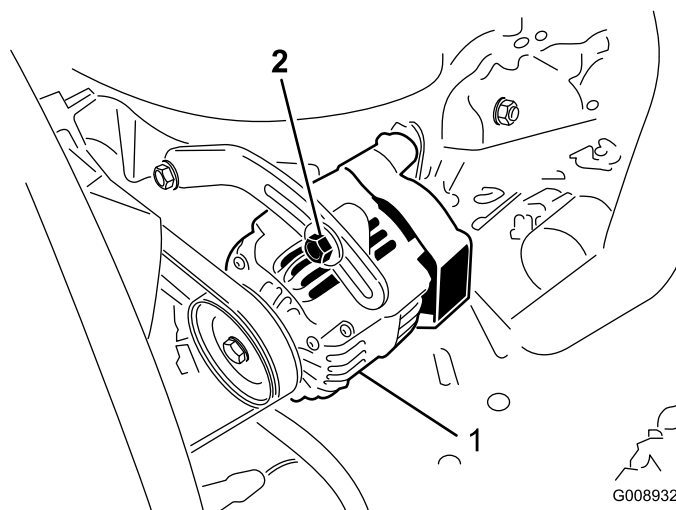

Figure 74
Check the condition and tension of the belts (Figure 74) after every 100 operating hours.
2. If the deflection is not 3/8 in. (10 mm), loosen the alternator mounting bolts (Figure 74). Increase or decrease the alternator belt tension and tighten the bolts. Check the deflection of the belt again to ensure that the tension is correct.